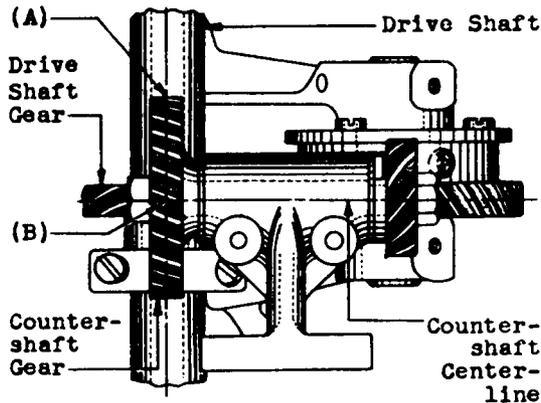

Fig. 7 - Alignment of Counter-shaft Gears
(2) The top sides of the gears shall not be out of alignment with each other in a vertical direction more than $1/32"$. This may be checked with the R-8550 scale where the gears mesh.
(b) Horizontal Alignment of Counter-shaft Gears (152, 161 and 166 Type Interrupters Only) - Fig. 7 (A): With the counter-shaft end play taken up toward the cam shaft, a plane midway between the two sides of the larger counter-shaft gear shall be within $.020"$ of the center-line of the drive shaft when measured at the top and bottom edges of the gear. Gauge by eye. (In general the thickness of the operating spring is $.020"$)
(c) Vertical Alignment of Counter-shaft Gears (152, 161 and 166 Type Interrupters Only) - Fig. 7 (B) - The center-line of the counter-shaft shall be within $.020"$ of a plane midway between the two sides of the drive shaft gear, when measured at the ends of the counter-shaft. Gauge by eye. (In general the thickness of the operating spring is $.020"$)